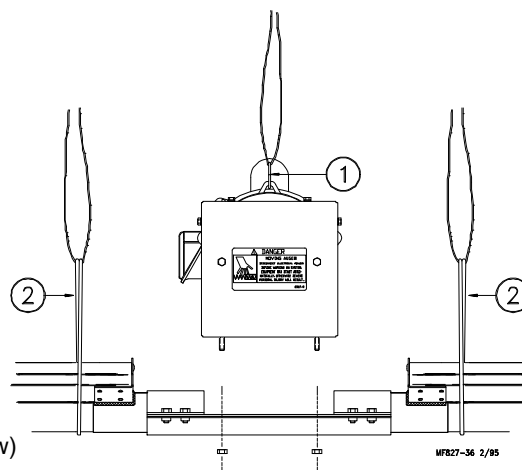

Figure 30. Power Unit Installation (Front View)
1. Secure the Power Unit and Driver Assembly to the Base Connector, using 1/4-20 locknut, previously removed. See Figure 30.
Notice: Each Power Unit location requires (3) suspension drop lines to support the Power Unit and prevent sagging. If the Power Unit Litter Shields are not going to be used, support the motor as shown in Figure 30. Installations using Power Unit Litter Shield, continue to step #2.